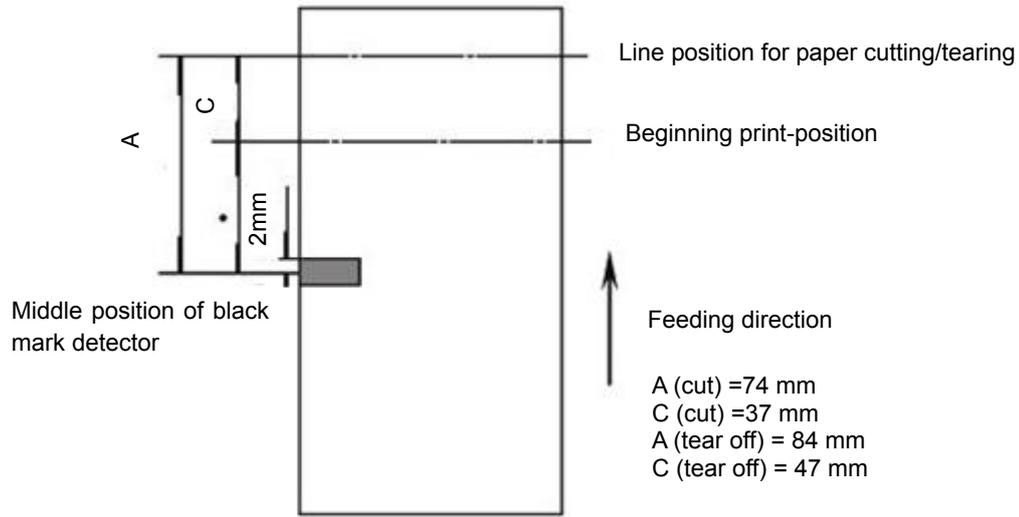

Figure 7-1
4. The inherent mechanical value of the printer: L0=A (mm) Q0=C (mm) (shown as figure 7-1).